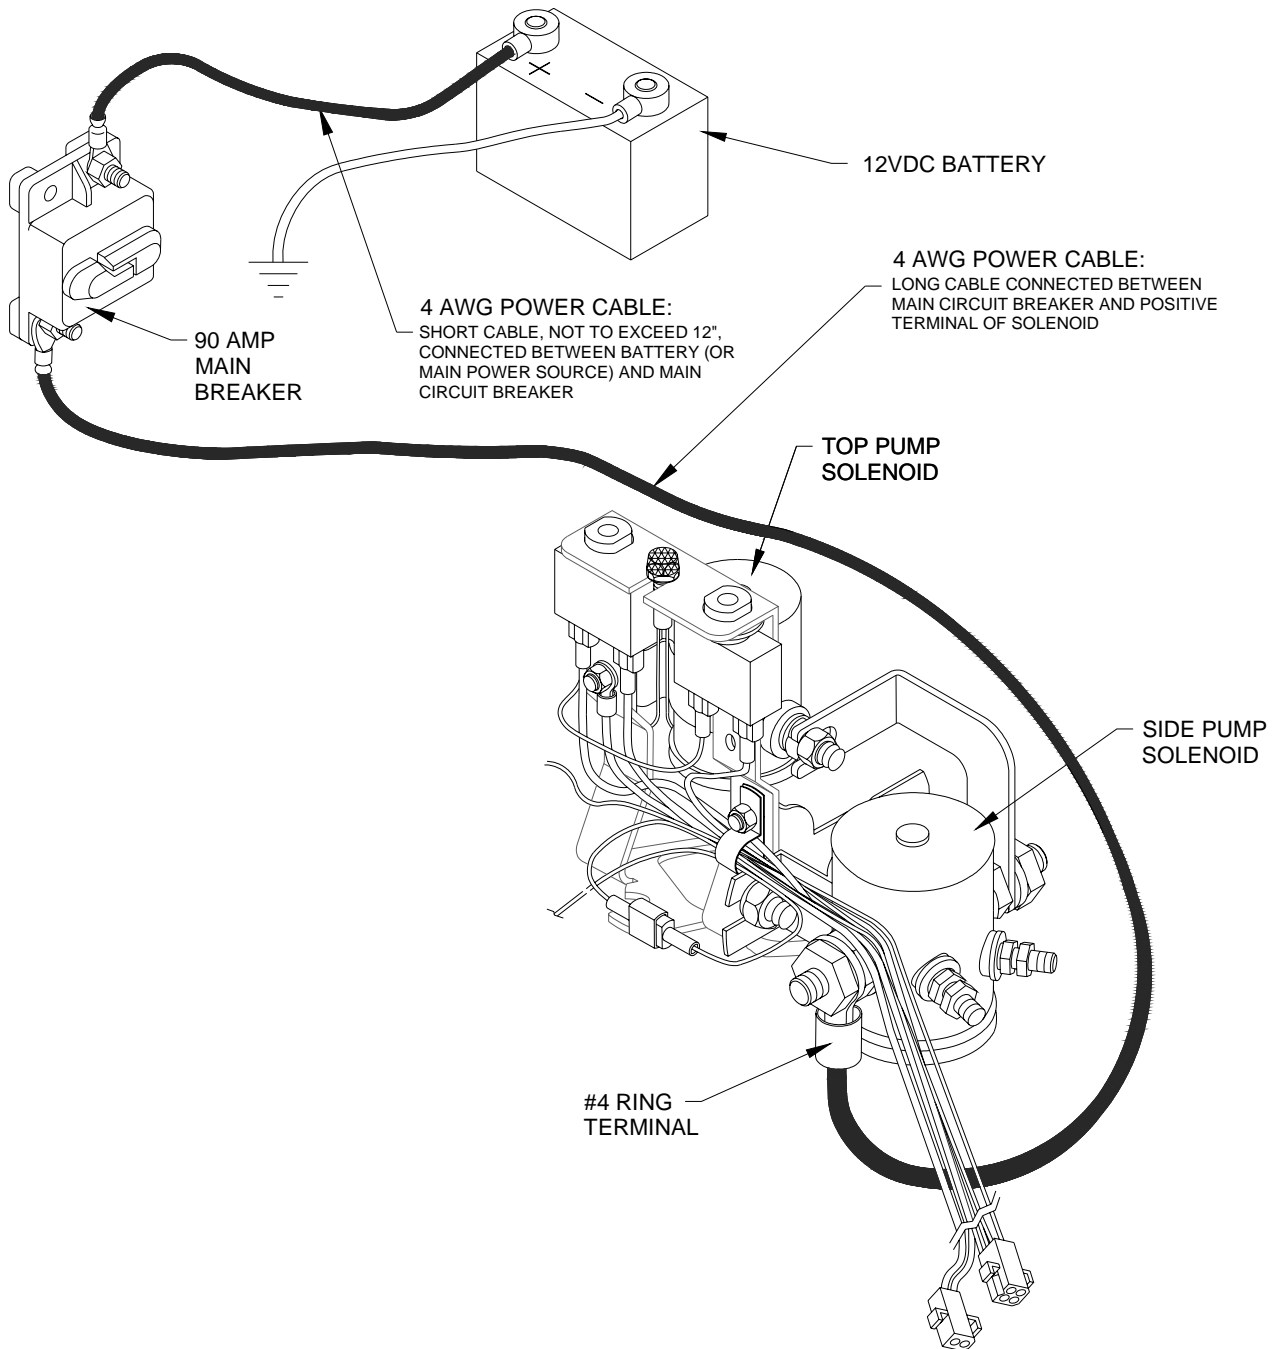

FIGURE 2-4: ELECTRICAL INSTALLATION DIAGRAM
- b. Refer to **Figures 2-4** and **2-5**. Drill one 19mm diameter hole through vehicle floor adjacent to base of hydraulic pump unit. Deburr hole and install grommet. If necessary, cut away any flooring material that is within ¼" of hole.